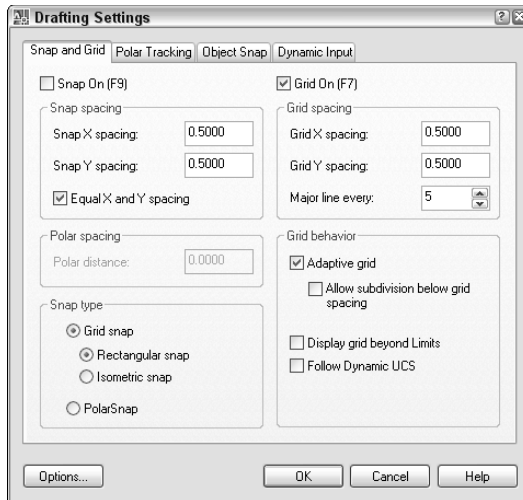

**Figure 4-18:** The Snap and Grid tab of the Drafting Settings dialog box.
To set the snap size, choose Tools ⇨ Drafting Settings or right-click the SNAP button on the status bar and choose Settings. The Drafting Settings dialog box opens, as shown in Figure 4-18. (If necessary, click the Snap and Grid tab.) In the Snap X Spacing text box of the Snap section, type the spacing you want between snap points. Make sure that Grid snap and Rectangular snap are checked in the Snap type & style section of the dialog box. Click OK.
2. Check PolarSnap in the Snap type & style section of the dialog box (refer to Figure 4-18).
To set the grid size, choose Tools ⇨ Drafting Settings to open the Drafting Settings dialog box (refer to Figure 4-18). If necessary, click the Snap and Grid tab. In the X Spacing text box of the Grid section, type the spacing you want between grid points. Click OK.